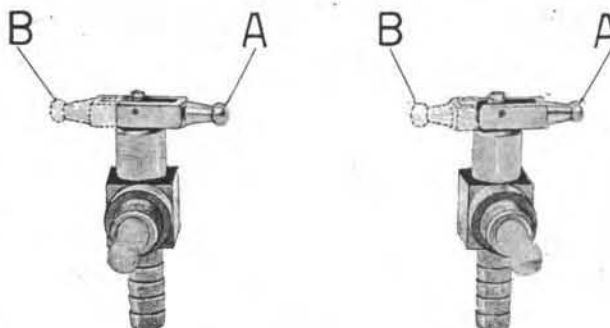

Fig. 66
side (A). They are closed when levers are turned to L/H side (B). See Fig. 66.